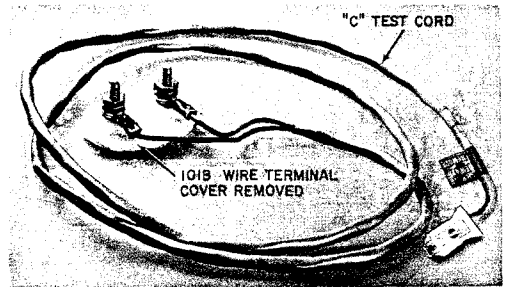

Fig. 6—C Test Cord and 101B Wire Terminal
2.10 The *C test cord* (Fig. 6) is attached to a wall-mounted wire terminal and should be